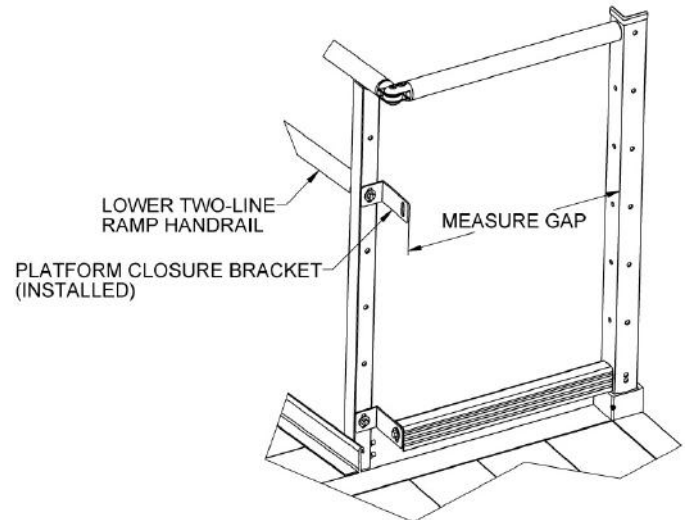

FIG. 5.11
- 5.5.2. Measure the gap between the long leg of the closure bracket and the platform post (FIG. 5.11).